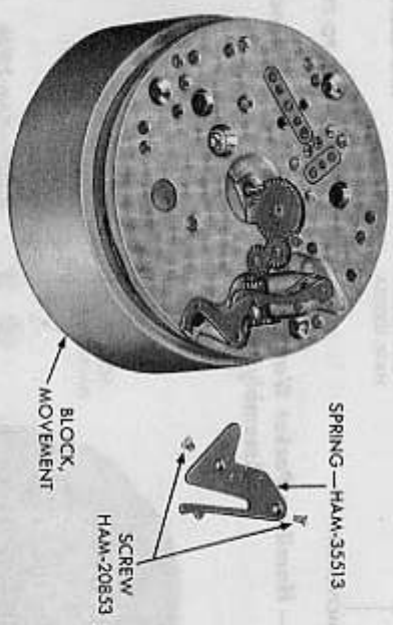

Figure 62 — Hamilton Pocket Watch — Setting Cap Spring Removed
p. Remove Setting Cap Spring (fig. 62). Remove setting cap spring screws and setting cap spring.
f. **Replace Setting Cap Spring (fig. 62).** Replace setting cap spring and secure in place with setting spring screws. The end of the setting spring should be held behind the shipper lever in order to hold it in setting and winding position.